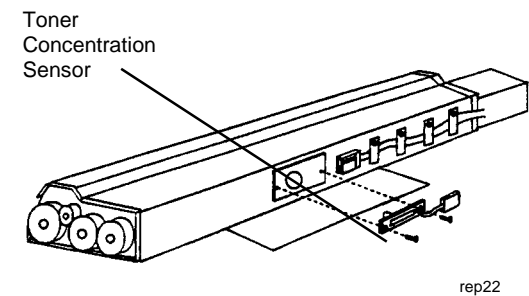

Figure 1. Removing the Toner Concentration Sensor
2. (Figure 1): Remove two screws and the Toner Concentration Sensor.